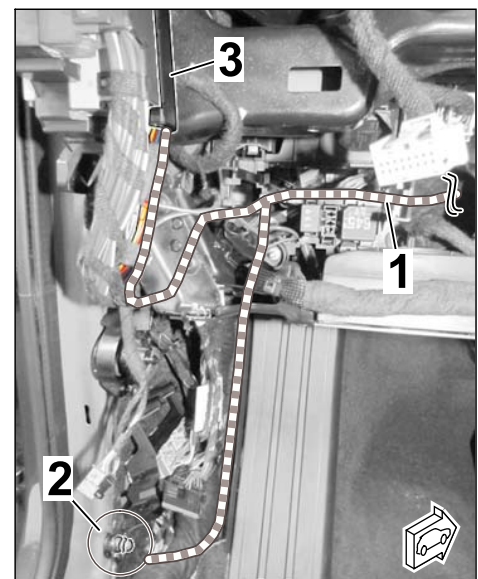

Figure 25
2.4.7 Route branch for power supply/ground (line BN; 1.02 with cable ring eyelet and line RD/YE; 1.02) from wire harness for engine noise control unit/pulse sender) to the passenger compartment as follows (⇒ Figure 25):
- 3 (2) – Fuse strip A